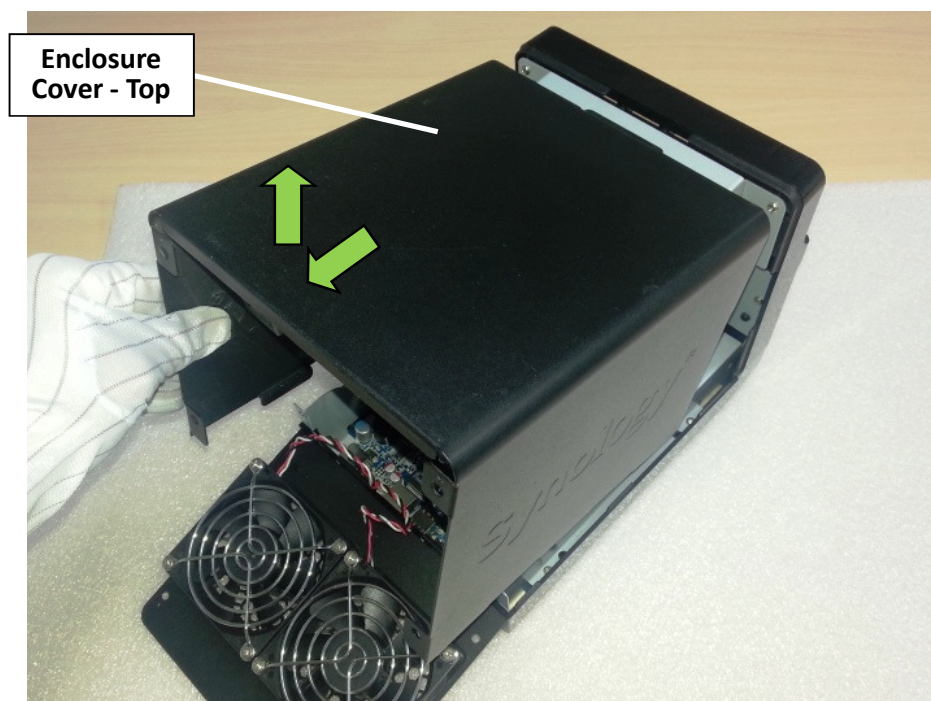

Fig. 47
3.1.4 Draw backwards then move up the enclosure cover to remove it. (Fig. 47)